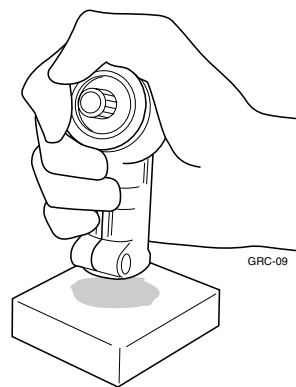

Figure 11.19 Removing the 250 pinion gear.
**STEP 2.** Pre-heat the gearcase to approximately 212°F (100°C) with a heat gun. Then remove the drive pinion and bearing seat from the gearcase by tapping the input end of the gearcase sharply against a flat wooden surface (Figure 11.19).